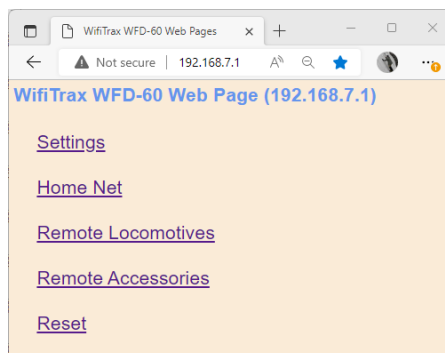

Figure 10 The Main Menu of the WFD-60
- (5) Now you are ready to start working on your WFD-60. On your computer, tablet or phone connect to its Wi-Fi Access Point, wftrx_WFD60_1_XXXXXXX_7, where XXXXXXXX is its serial number.
- (6) Open a browser and type 192.168.7.1 into the URL textbox, then hit enter. This should display the main menu as in Figure 10.